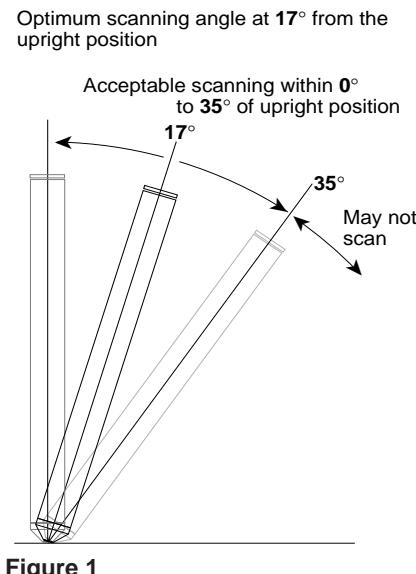

Figure 1
2. Place the tip on the surface of the label approximately one-half inch (1.3 cm) before the beginning of the bar code. Hold the wand at a slight angle (see Figure 1).